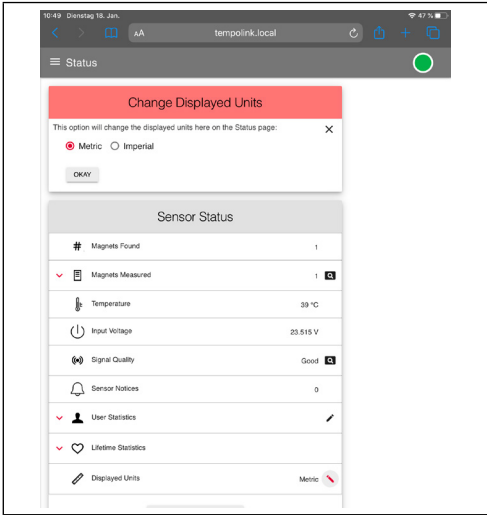

Fig. 28: Changing display units
- **Displayed Units:** You can change the units of the displayed values from metric units to imperial units. To do this, click on the black pencil in this line. The “Change Display Units” window opens. Select the desired unit and confirm by clicking OK (Fig. 28).